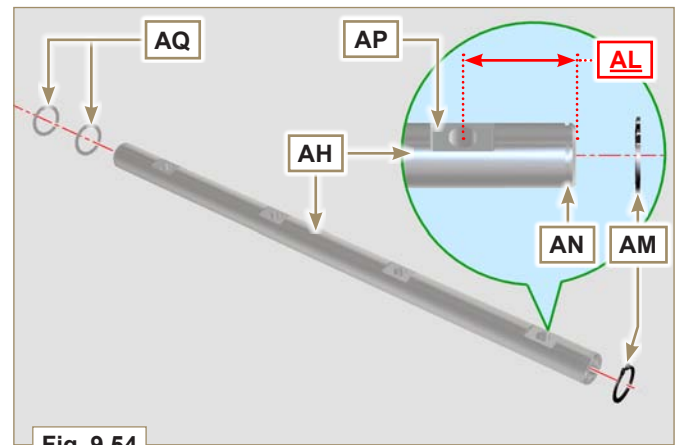

Fig. 9.54
- To correctly position the rocker arms, turn the rocker arm pin **AH** with the lower height **AL** towards the timing system side as in **Fig.9.54**.